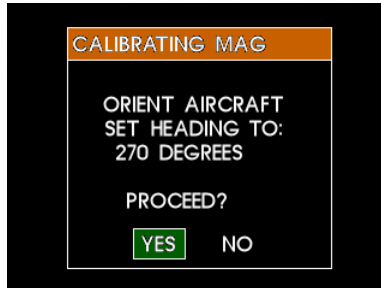

Figure 4.56
- c. The MD302 will request the aircraft be aligned to the following headings: 360, 090, 180, and 270. After aligning the aircraft to each heading, wait until the aircraft is fully stopped and stable for 10 seconds before selecting YES. Maintain position without moving the aircraft for the full 60 seconds. (Figure 4.56)